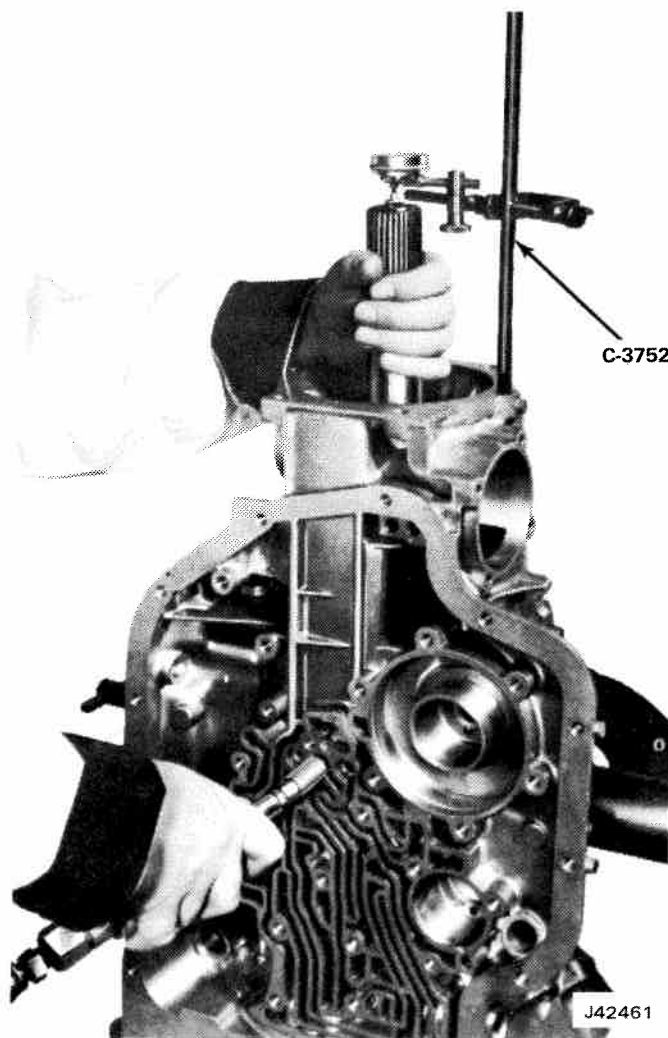

Fig. 7-31 Rear Unit End Play
- (1) Install rod from Tool C-3752 into an extension housing attaching bolt hole.
- (2) Mount the Dial Indicator on the rod and index with the end of the output shaft (fig. 7-31).
- (3) Move the output shaft in and out to read the end play.
- (4) End play should be from 0.007 to 0.019 inch.
- (5) The selective washer controlling this end play is